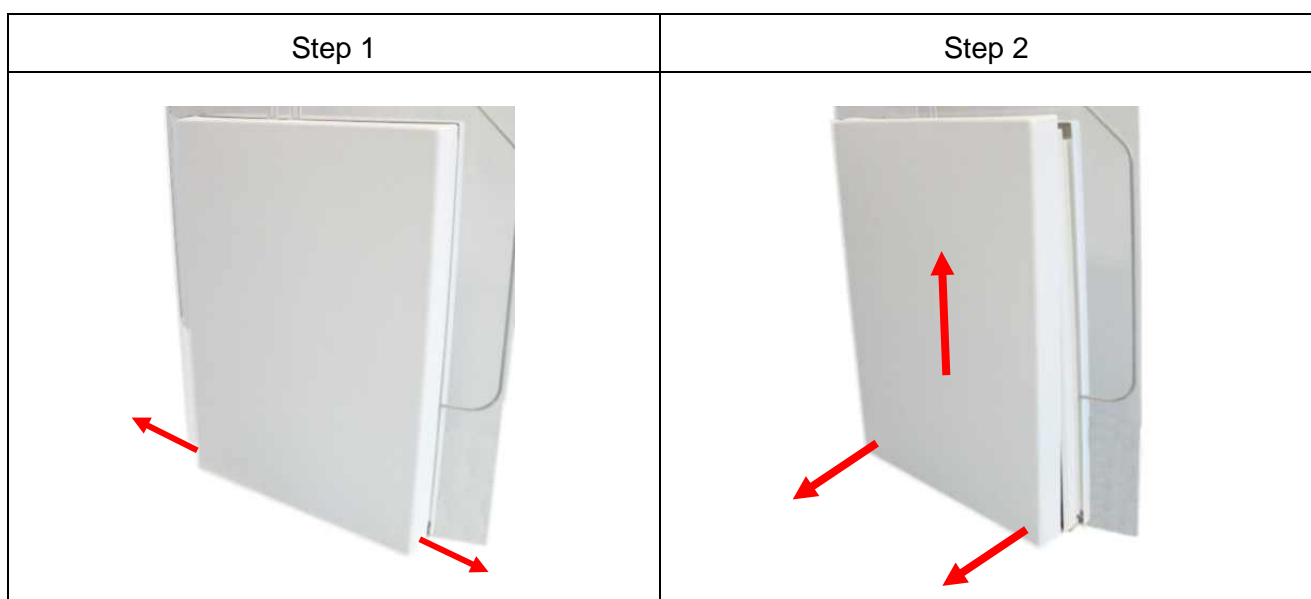

Fig. 4: Opening the antenna base
2. Afterwards, the antenna has to be placed carefully on the floor again. Now, the two fastening screws (hexagon socket width AF 2,5) have to remove of the antenna base cover. By moving the cover upwards, carefully, remove the cover from the antenna base. Fig. 4